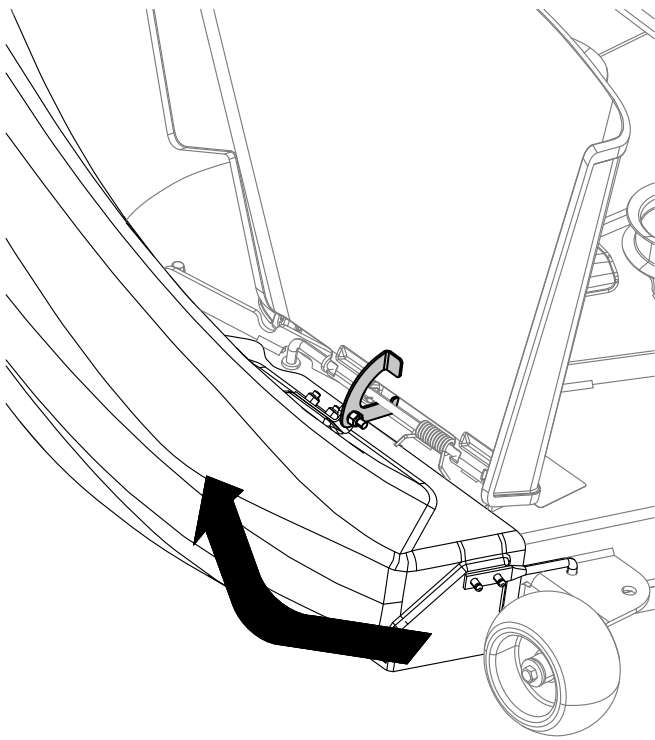

Figure 22
6. On the top of the chute, engage the hook-shaped latch around the pivot rod of the deflector assembly and install the rod into the hole on the mower deck (Figure 22).